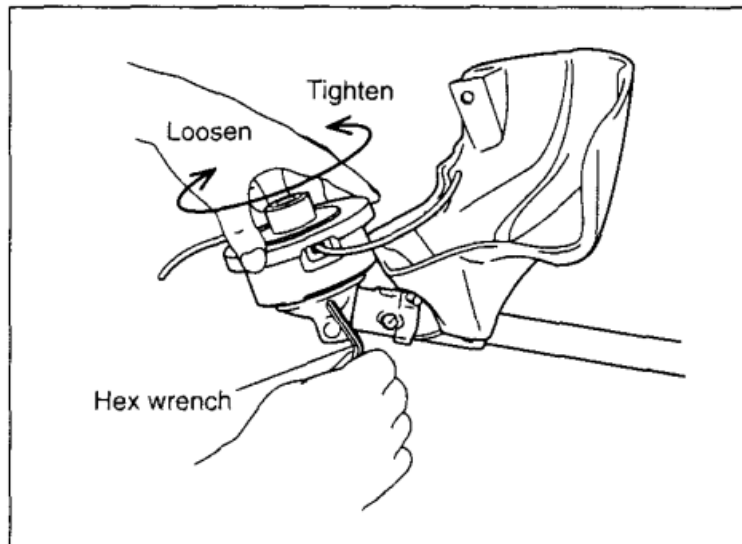

Fig. 4
4. Screw the nylon cutting head onto the shaft (Fig. 4).